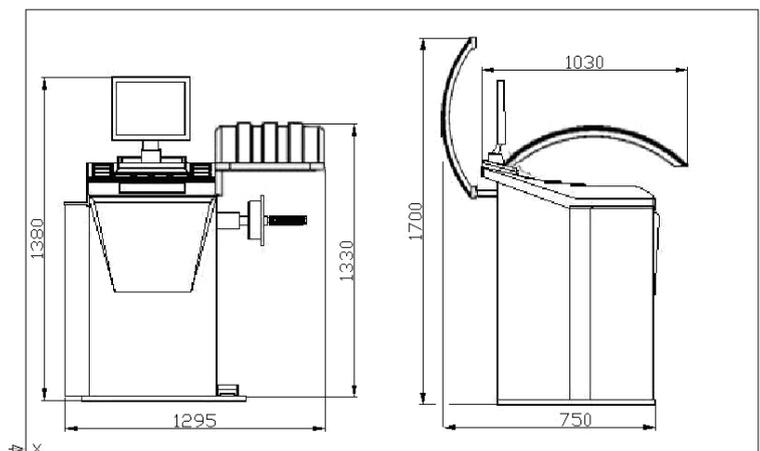

Figure 3
- Space for installing is big enough to meet the needs in figures 3 and ensures each part of the machine to work normally.